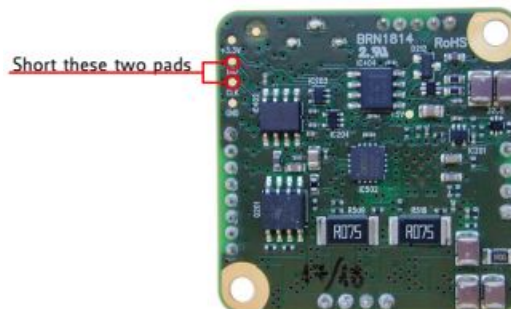

Figure 5: Reset to factory default settings
2. Short CLK and DIO pads of programming pads on the bottom of PCB (see figure 5)